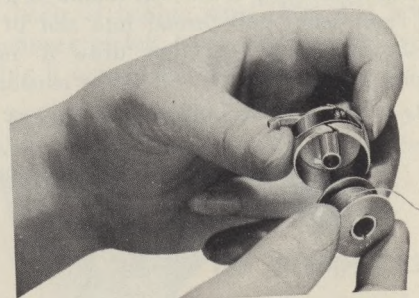

Fig. 14
- a. With left hand, hold bobbin case between thumb and forefinger in such a way that the slot in the edge of the bobbin case is on top and its open side faces to right, as shown in Fig. 14.
b. Hold *bobbin* between thumb and forefinger of *right hand*, so that thread on top leads from left to right, as shown in Fig. 14.